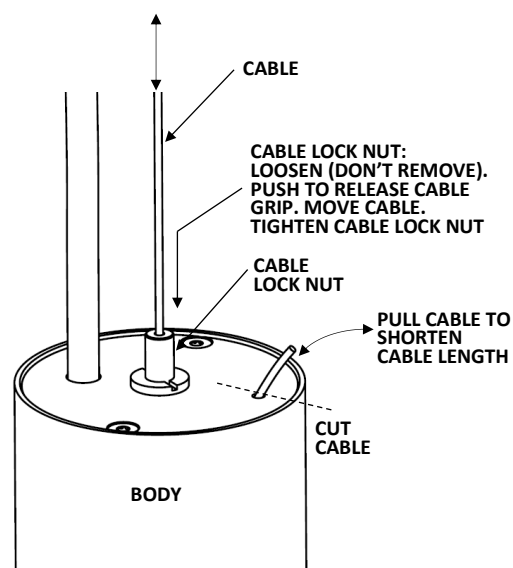

Fig. 7
7. **ADJUST CABLE LENGTH (OPTIONAL). Fig.7**